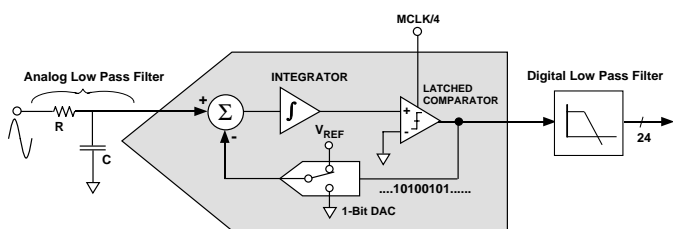
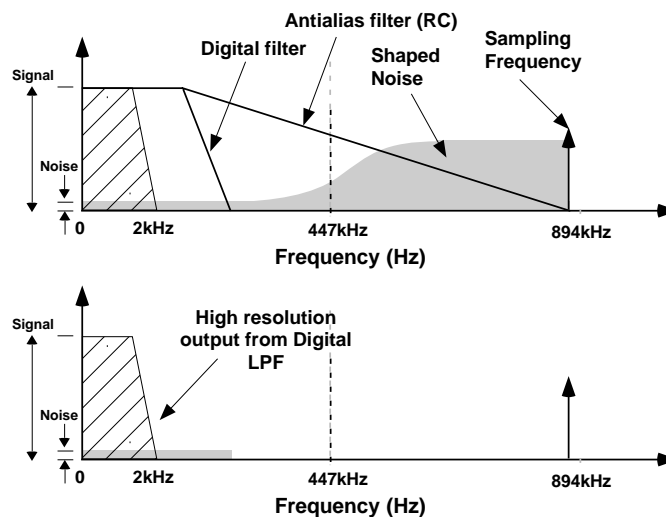
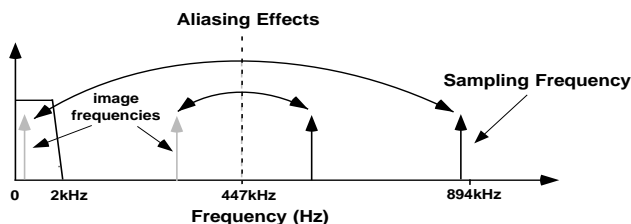

Figure 17- First Order Sigma-Delta (Σ - Δ) ADC
Figure 18- Noise reduction due to Oversampling & Noise shaping in the analog modulator
Figure 19—ADC and signal processing in Channel 1
The analog-to-digital conversion in the ADE7753 is carried out using two second order sigma-delta ADCs. For simplicity reason, the block diagram in Figure 17 shows a first order sigma-delta ADC. The converter is made up of two parts: the sigma-delta modulator and the digital low pass filter.
The sigma-delta converter uses two techniques to achieve high resolution from what is essentially a 1-bit conversion technique. The first is over-sampling. By over sampling we mean that the signal is sampled at a rate (frequency) which is many times higher than the bandwidth of interest. For example the sampling rate in the ADE7753 is CLKIN/4 (894kHz) and the band of interest is 40Hz to 2kHz. Over-sampling has the effect of spreading the quantization noise (noise due to sampling) over a wider bandwidth. With the noise spread more thinly over a wider bandwidth, the quantization noise in the band of interest is lowered—see Figure 18. However, oversampling alone is not an efficient enough method to improve the signal to noise ratio (SNR) in the band of interest. For example, an oversampling ratio of 4 is required just to increase the SNR by only 6dB (1-Bit). To keep the oversampling ratio at a reasonable level, it is possible to shape the quantization noise so that the majority of the noise lies at the higher frequencies. This is what happens in the sigma-delta modulator, the noise is shaped by the integrator which has a high pass type response for the quantization noise. The result is that most of the noise is at the higher frequencies where it can be removed by the digital low pass filter. This noise shaping is also shown in Figure 18.
Figure 17 also shows an analog low pass filter (RC) on the input to the modulator. This filter is present to prevent aliasing. Aliasing is an artifact of all sampled systems. Basically it means that frequency components in the input signal to the ADC which are higher than half the sampling rate of the ADC will appear in the sampled signal at a frequency below half the sampling rate. Figure 19 illustrates the effect. Frequency components (arrows shown in black) above half the sampling frequency (also know as the Nyquist frequency, i.e., 447kHz) get imaged or folded back down below 447kHz (arrows shown in grey). This will happen with all ADCs regardless of the architecture. In the example shown, only frequencies near the sampling frequency, i.e., 894kHz, will move into the band of interest for metering, i.e., 40Hz - 2kHz. This allows the usage of very simple LPF (Low Pass Filter) to attenuate high frequency (near 900kHz) noise and prevents distortion in the band of interest. For conventional current sensor, a simple RC filter (single pole LPF) with a corner frequency of 10kHz will produce an attenuation of approximately 40dBs at 894kHz—see Figure 18. The 20dB per decade attenuation is usually sufficient to eliminate the effects of aliasing for conventional current sensor. For di/dt sensor such as Rogowski coil, however, the sensor has 20dB per decade gain. This will neutralize the -20dB per decade attenuation produced by the simple LPF. Therefore, when using a di/dt sensor, care should be taken to offset the 20dB per decade gain coming from the di/dt sensor. One simple approach is to cascade two RC filters to produce the -40dB per decade attenuation needed.